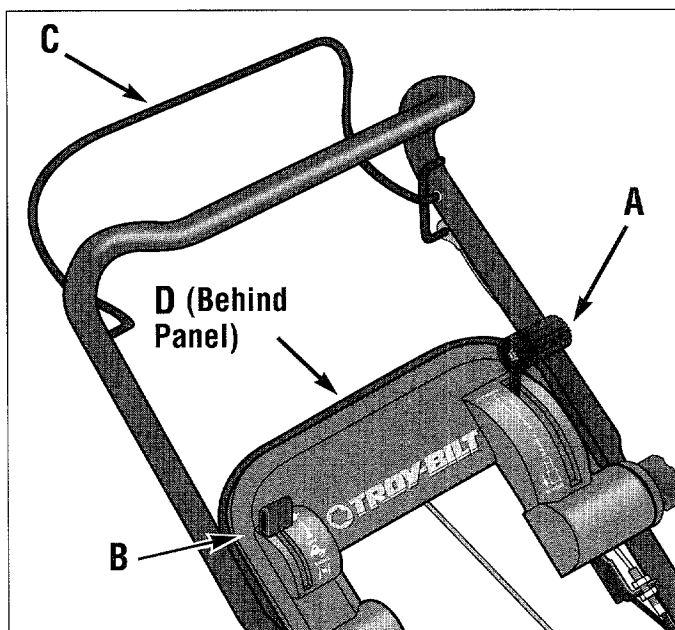

Figure 4-6: Operating controls on Models 34022, 34022C, 34322 and 34322C.
- C. Move the Wheel Drive Lever (A, Figure 4-6) back to the **DISENGAGED** position.
- D. Move the Engine Speed Lever (B, Figure 4-6) forward past the **FAST** position to the **CHOKE** position.
- E. Stand in the operator's position and squeeze the Operator Presence Control Bar (C) against the handlebar.
- F. Firmly grasp the Recoil Starter Rope Handle (D, Figure 4-6). Slowly pull the Recoil Starter Rope Handle rearward until there is resistance from engine compression.
I. When the engine starts, move the Engine Speed Lever (B) to the **FAST** position. The mower blade is now turning.
A. To select a mowing speed, first move the Wheel Drive Lever (A, Figure 4-6) all the way back to the **DISENGAGE** position.
NOTE: When *changing the speed of the mower*, always move the Wheel Drive Lever (A, Figure 4-6) back to the **DISENGAGE** position to de-clutch the wheel drive mechanism before turning the Wheel Speed Adjustment Knob.